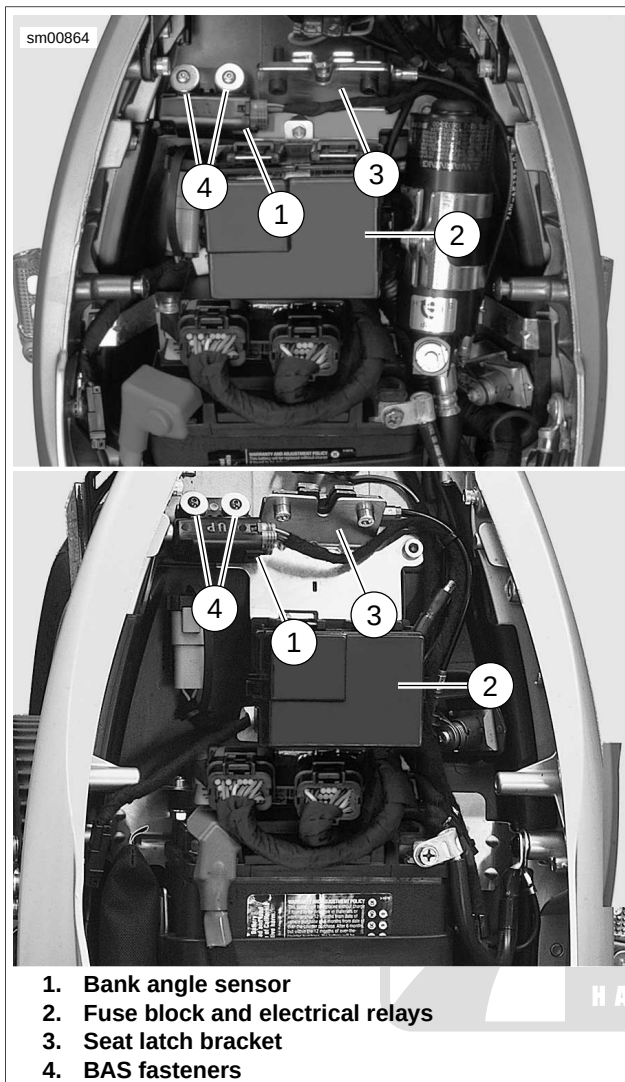

Figure 4-23. Bank Angle Sensor: Lightning (Top), XB12Ss (Bottom)
1. See Figure 4-23. Install bank angle sensor connector [134].